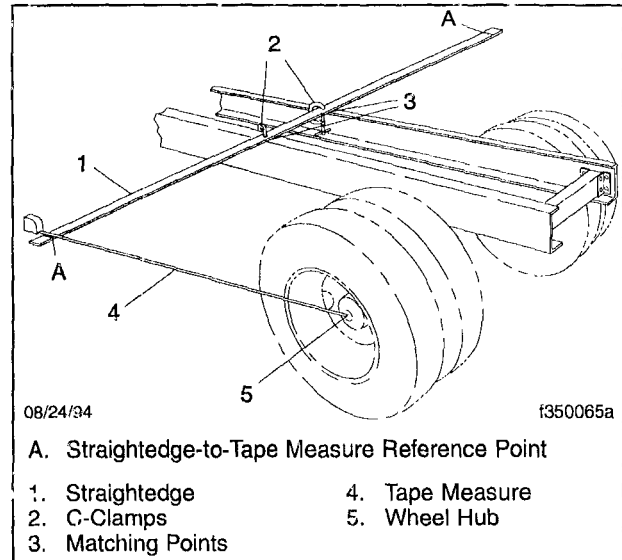

Fig. 8, Straightedge to Wheel Hub Measurement
4. Line up a straightedge with the two matching points. Check that the straightedge extends out about the same distance on each side of the frame rail. Using C-clamps, clamp the straightedge to the frame. See **Fig. 8**. The straightedge must line up exactly with the points.
5. Measuring from the outside edge of each frame rail, mark the straightedge on both sides of the frame. Reference "A" (see **Fig. 8**) must be of equal distance from the frame and as far from the frame rail as the tires are at their farthest point from the frame.
6. On each side of the vehicle, measure the distance from the mark on the straightedge to the center of the wheel hub. See **Fig. 8**.